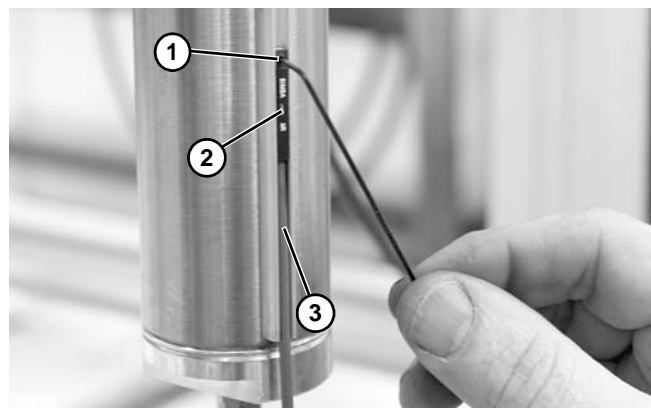

Figure 24
1. To adjust cylinder stroke sensors, loosen set screw (**Figure 24, item 1**) and move sensor (**Figure 24, item 2**) up or down in channel (**Figure 24, item 3**). Tighten set screw.